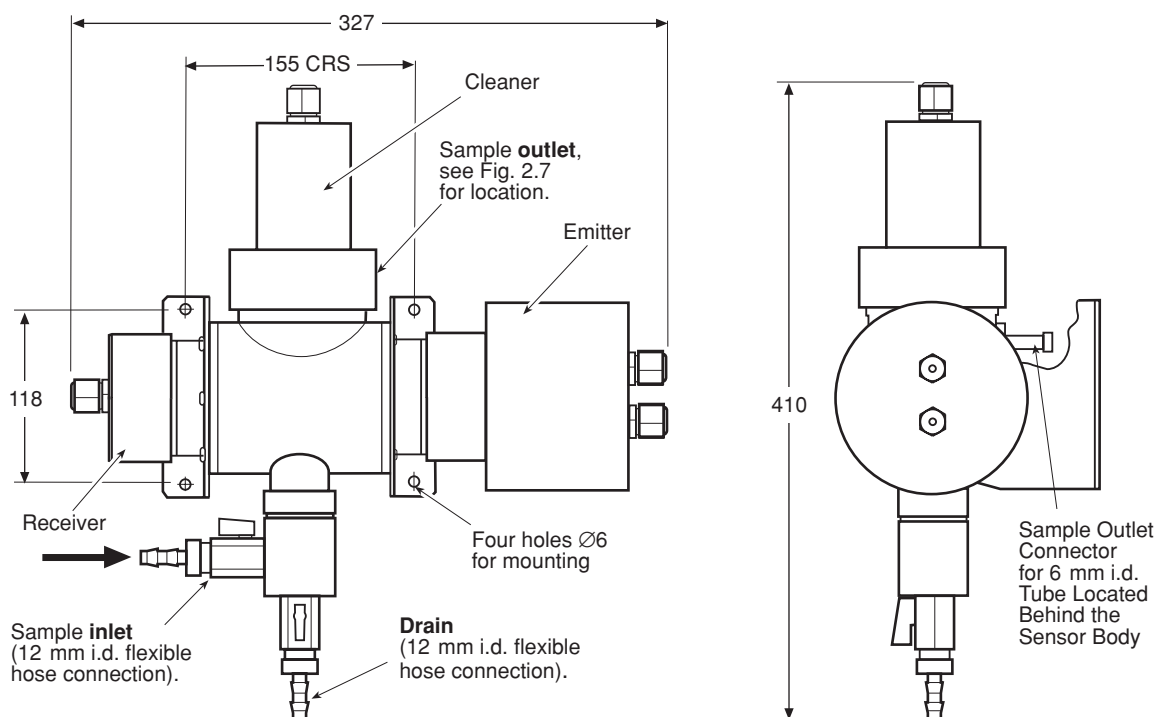

Fig. 2.4 Overall Dimensions and Mounting Details of 7320 100 (Low Range Sensor)
2.3 Installing the Flowcell – Figs. 2.4 and 2.5